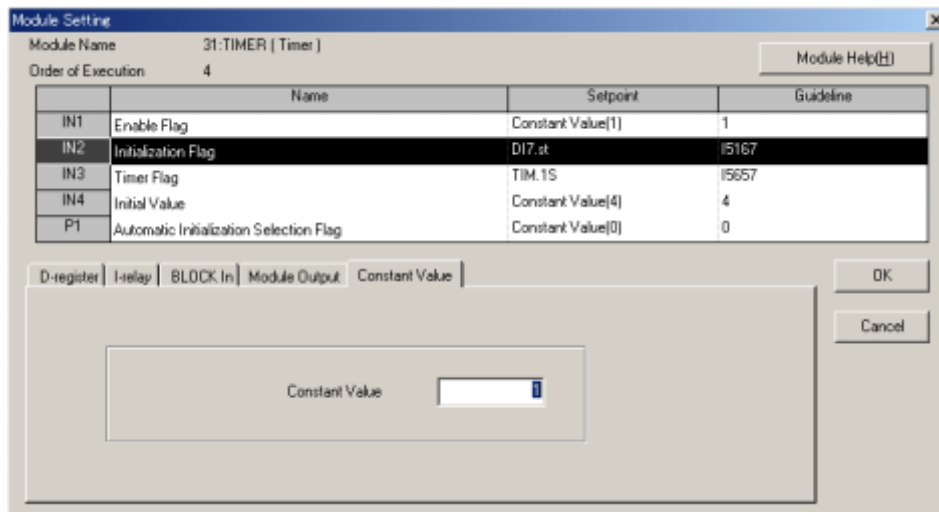

Figure 12.5.20 Configuration of the <IN1> Input
- (3) The <IN1> module input is waiting for the data setting.
- (4) Click the <Constant Value> index.
- (5) Type “1” in the text box and press the <Enter> key. (Figure 12.5.20)